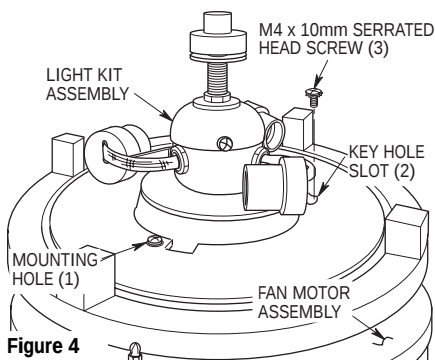

Figure 4
5. Attach the light kit plate assembly by inserting a M4 x 10mm serrated head screw into the hole. Rotate the light kit plate assembly to align the key hole slots. Attach the two remaining M4 x 10mm serrated head screws into the key hole slots. Tighten the three screws securely. (Figure 4).